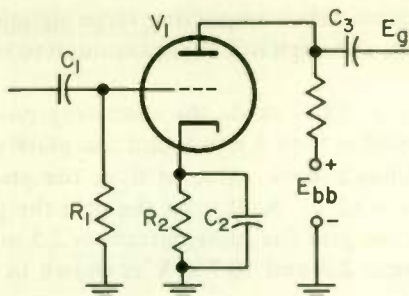

Fig. 27
1. Refer to Fig. 27. An amplifier, of which the stage shown is a part, is not working correctly. The complaint is that the signal at the speaker is distorted. You have traced the trouble to the stage shown and, by using an oscilloscope, you have found that the signal E_x is flattened at the peaks of the positive-going half-cycles. A cause of this condition could be that resistor R_2 _____ in value.